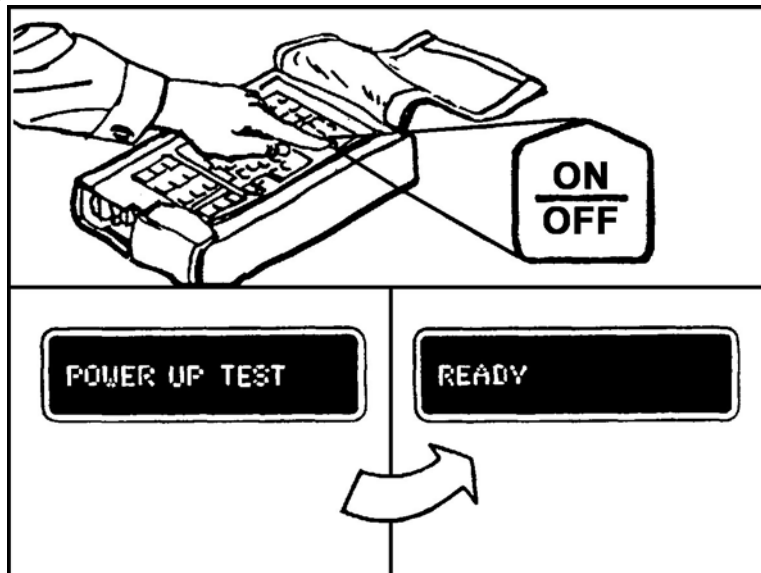

Figure 1. Initial display.
- a. Press the ON/OFF switch on the MBC. The display should read, POWER UP TEST. At this time, the MBC is performing internal checks. When this is complete, the display reads READY (Figure 1).